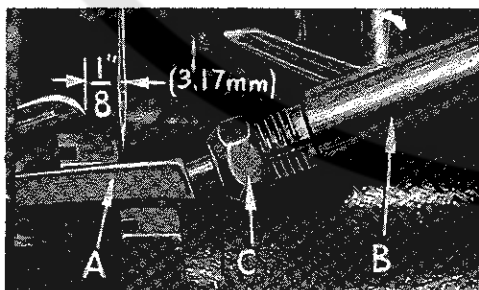

Fig. 5
On all of the Styles covered in this catalog except Style 39500 TH, insert lower looper (A, Fig. 5) into bar (B). With lower looper at left end of its stroke, set looper point $\frac{1}{8}$ inch (3.17 mm) from center of needle (Fig. 5), using looper gauge No. 21225- $\frac{1}{8}$. Do not have lower looper deflecting needle. Tighten nut (C).
On machine Style 39500 TH insert lower looper (A, Fig. 5) into bar (B). With lower looper at left end of its stroke, set looper point $\frac{3}{32}$ inch (2.38 mm) from center of needle (Fig. 5), using looper gauge No. 21225- $\frac{3}{32}$. Do not have lower looper deflecting needle. Tighten nut (C).